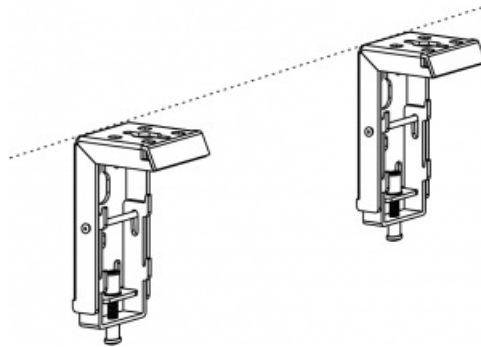

Figure 1
2. Ensure the brackets are horizontal and near the ends of the casing. Fasten to the wall or ceiling, not both. (Figure 1)